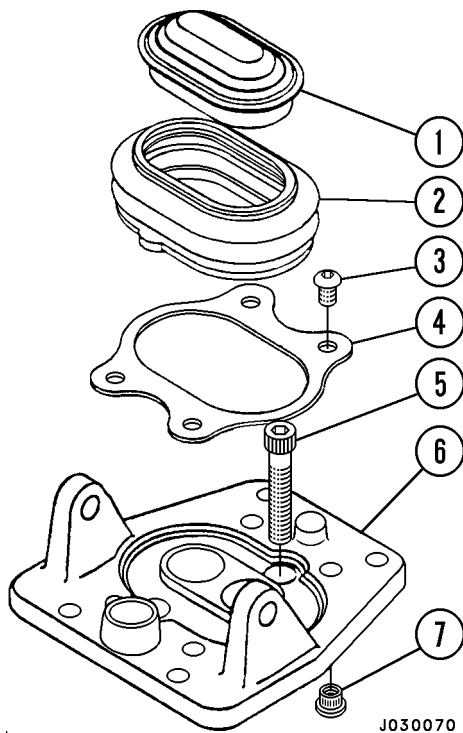
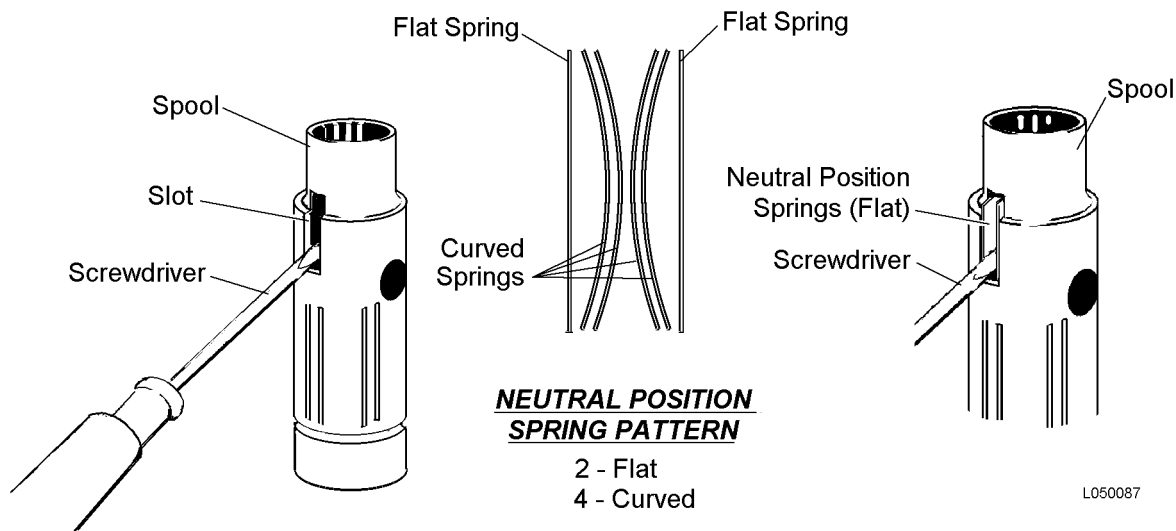

FIGURE 50-7. ACTUATOR CAP & BOOT
FIGURE 50-9. NEUTRAL POSITION SPRING INSTALLATION
4. Remove spring pivots (8) and spring (9).
5. To remove brake pedal actuator (3), remove two retainer clips (4), then use a punch and hammer to drive out pivot shaft (5).
6. Remove four button head screws (3, Figure 50-7) that secure retainer plate (4).
7. Remove retainer plate (4), boot (2) and actuator cap (1) as an assembly by grasping the boot and gently lifting it from the valve body.
1. Inspect threaded inserts (7, Figure 50-7) in actuator base (6). If any of the threads are damaged, the inserts must be replaced.
2. If any threaded inserts (7) were removed from actuator base (6), position the actuator base upside down on the work bench and support it directly under each of the four mounting holes.
5. Examine boot (2) for any cracks, tears, or other damage. If damage is evident, the boot must be replaced.
6. If damaged, remove the boot from actuator cap (1) and discard the old boot. Thoroughly clean the sides of the cap by using a knife or suitable scraper to scrape the lip where the cap contacts the boot. Clean the cap thoroughly to remove all adhesive or particles of the old boot.
10. Once the adhesive has cured, install actuator base (6) on top of the valve body. Position the actuator base properly for correct port direction. Install and tighten two socket head capscrews (5) to **20 - 21 N·m (180 - 190 in lb)**.
11. Ensure that the jam nut (2, Figure 50-9) and set screw (1) are installed in the brake pedal actuator.
3. To install the neutral position springs, place a screwdriver in the spool slot as shown in Figure 50-9.